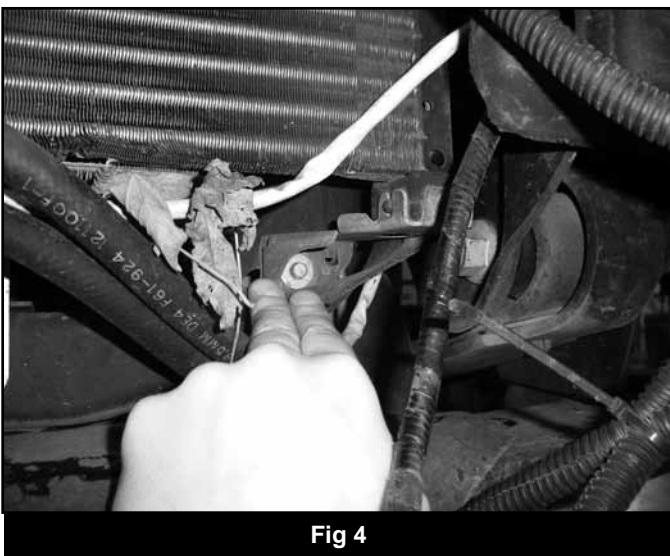

Fig 4
10. Loosen but do not remove all four leaf spring mounting bolts. On the front, the A/C condenser brackets will need to be removed to gain access to the bolt (Fig 4). Remove the brackets from the core support and save along with the mounting bolts. Note: The factory uses very strong Loctite on the leaf spring bolts. In most cases heat will be needed to loosen the nuts (Fig 5). Take extra care when heating the nuts and keep a fire extinguisher near by.